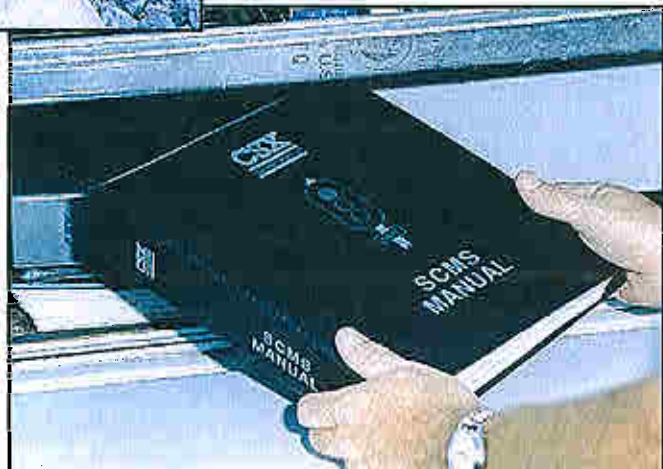

Figure 6-2: Signal Construction and Maintenance Standards manual
1. Give the entire detector location a good visual inspection. Check, tighten, and/or replace any loose bolts and broken parts on the transducers, scanner bases, deflector blocks, and dragger. Inspect the ground rods and connections and replace or repair them to the CSX standard. (Refer to the *Signal Construction and Maintenance Standards* manual shown in Figure 6-2. Replace any badly damaged paddles on the dragger. Remove any debris or obstructions from the dragger. Check the dragger switch gasket to ensure water is not getting into the switch contact.